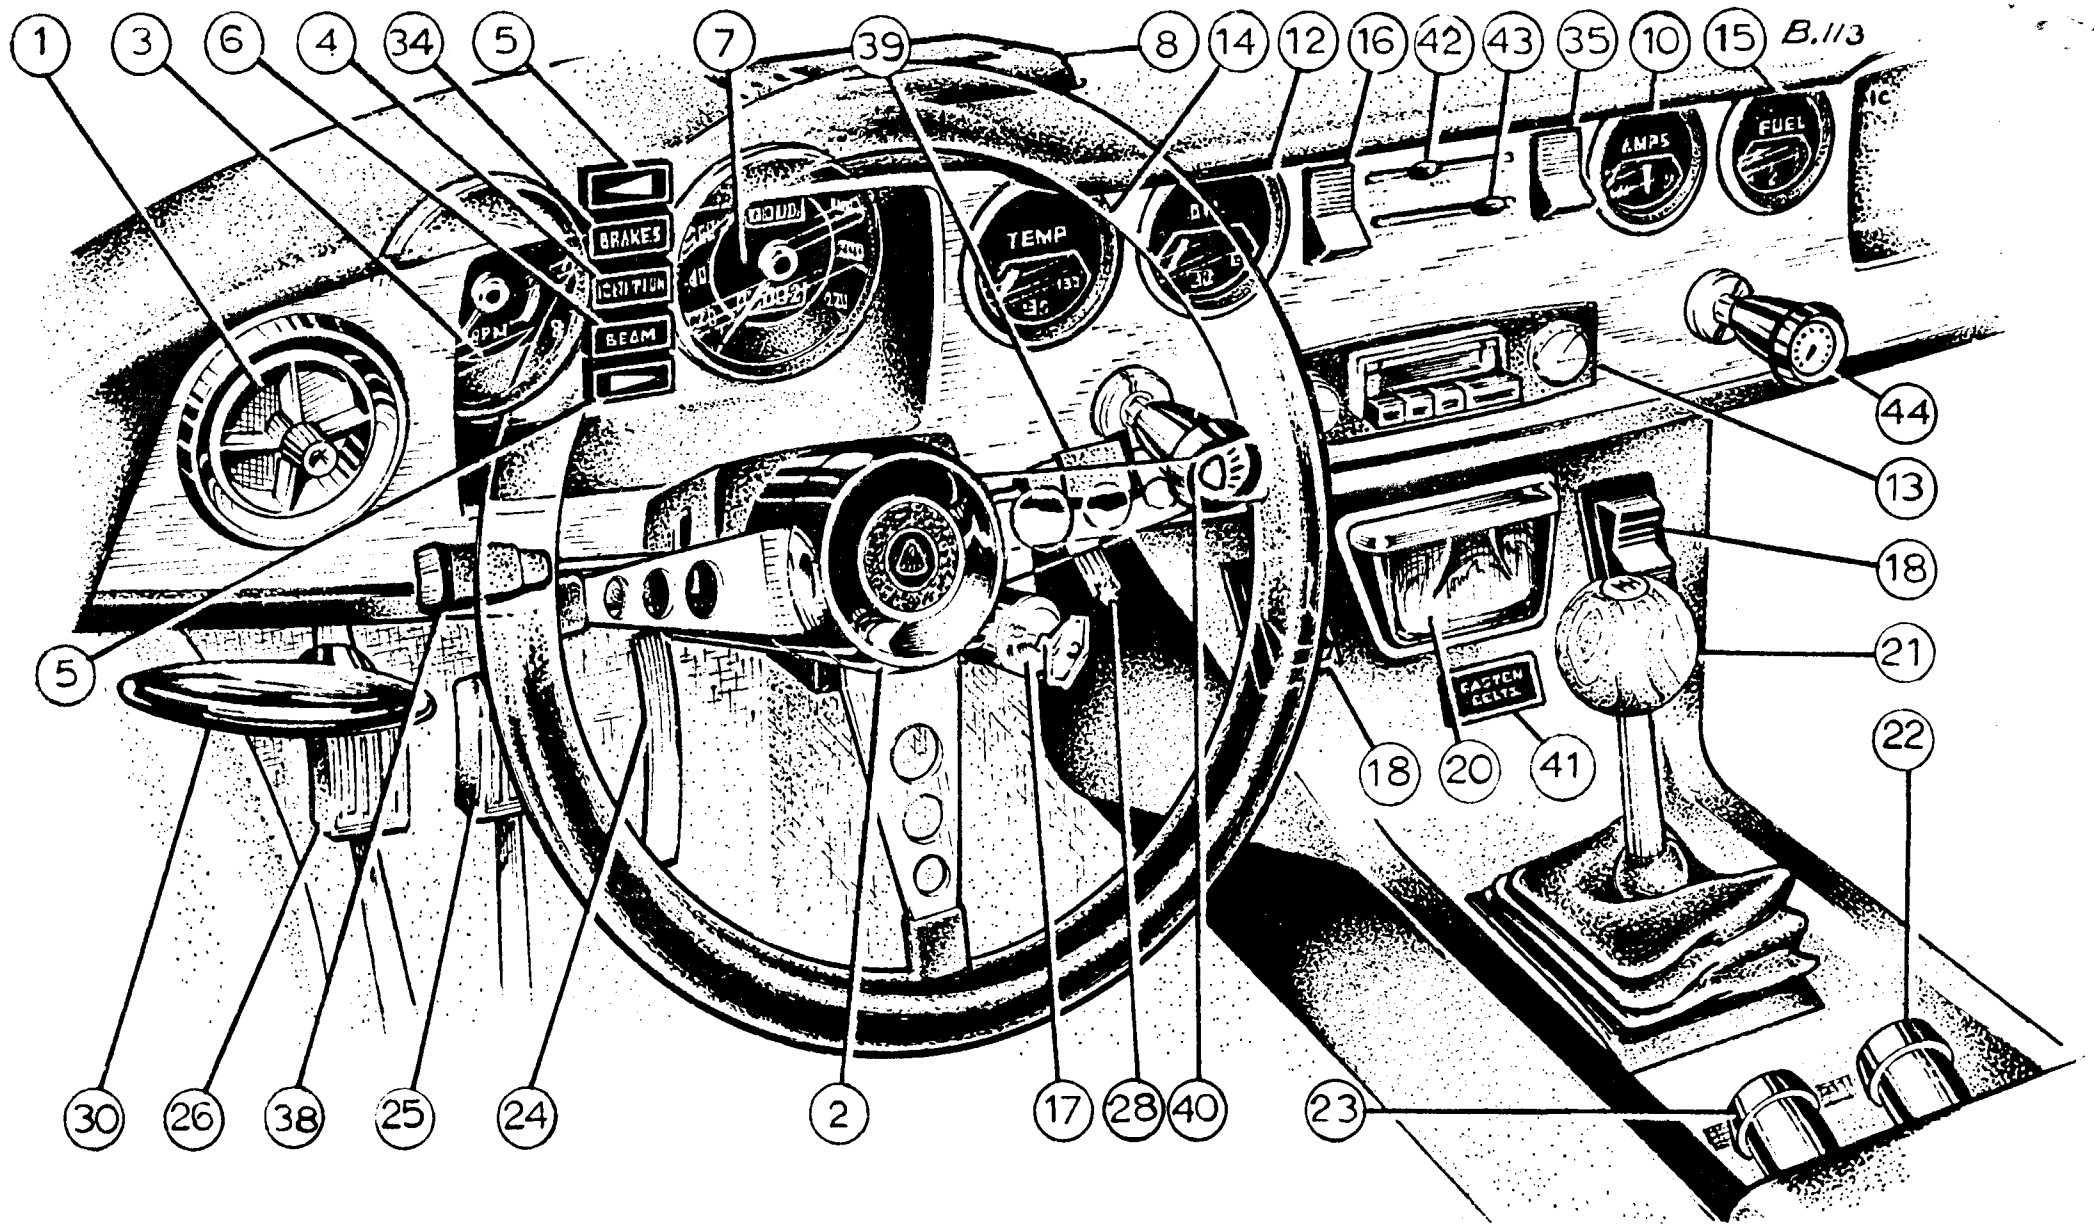

Fig. 1—L.H.D. Facia panel and controls (North America only).
Key to Fig. 1
Main beam is obtained with the lever in the downwards (F) position; to select dipped beam move the lever upwards (G). Note that these positions are only operative when the lighting switch (40 of Fig. 1) is in operation. Lifting the lever towards the steering wheel flashes the headlamps main beams irrespective of the position of the lighting switch (H). When the headlamps are on main beam, a warning lamp (6 of Fig. 1) on the facia will illuminate.
Air can be delivered, hot or cold and at any intermediate temperature, to the screen (DEFROST), through the screen vents (8 of Fig. 1), or to the occupants' feet (INTERIOR), depending upon requirements.
Temperature is controlled by pulling out the knob (23 of Fig. 1) from the cold position when fully in, to the hot position when fully out.